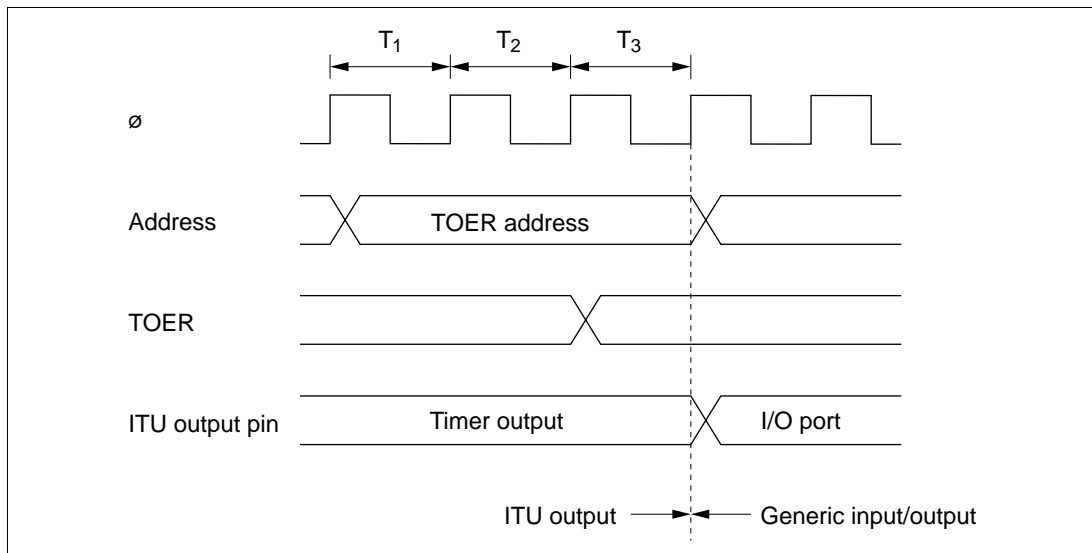

Figure 8-54 Timing of Disabling of ITU Output by Writing to TOER (Example)
Timing of Enabling and Disabling of ITU Output by TOER: In this example an ITU output is disabled by clearing a master enable bit to 0 in TOER. An arbitrary value can be output by appropriate settings of the data register (DR) and data direction register (DDR) of the corresponding input/output port. Figure 8-54 illustrates the timing of the enabling and disabling of ITU output by TOER.